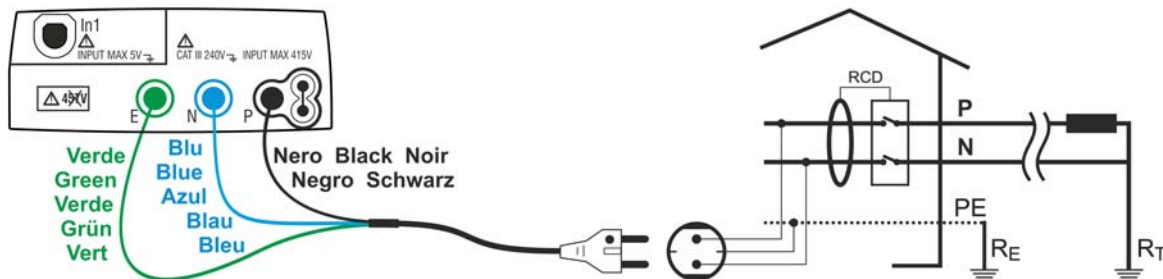
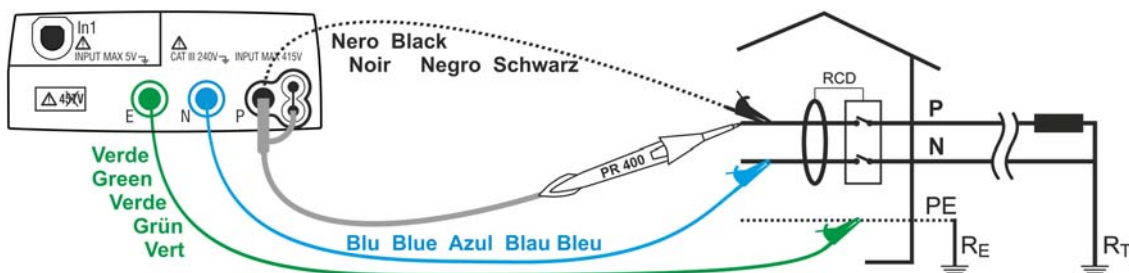

Fig. 4: Instrument connection through shuko cable
Fig. 5: Instrument connection by means of single cables and remote probe
3. Insert the green, blue and black connectors of the three-pin shuko cable into the corresponding input leads E, N and P of the instrument. As an alternative, use the single cables and apply the relevant alligator clips to the free ends of the cables. It is also possible to use the remote probe by inserting its multipolar connector into the input lead P. Connect the shuko plug, the alligator clips or the remote probe to the electrical mains according to Fig. 4 and Fig. 5